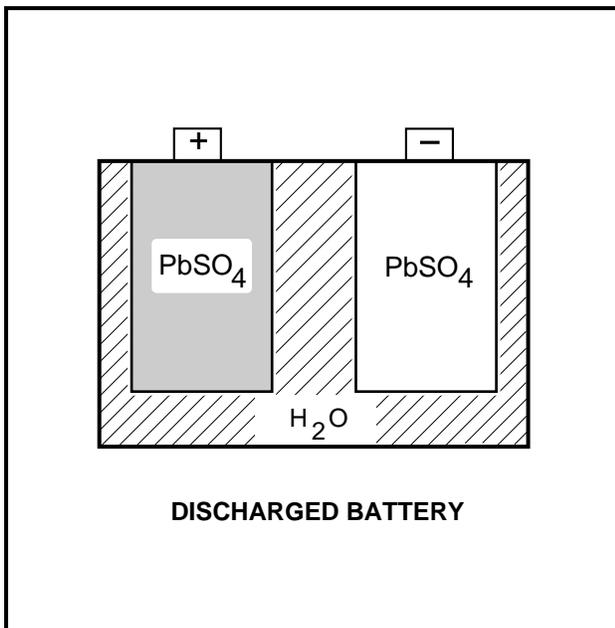

Figure 13-3 Discharged Battery
The sulfate (SO₄) combines with the lead (Pb) on both plates, forming lead sulfate (PbSO₄). Oxygen (O₂) from the positive plates combines with hydrogen (H) from the electrolyte to form water (H₂O) (**Figure 13-3, Page 13-2**).